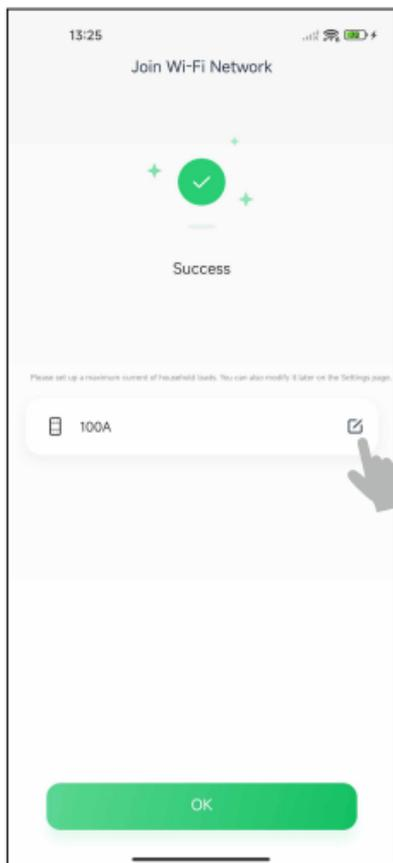

Fig. 3-6
5. Connected successfully. Tap the  to set the total household current input (See Fig. 3-6).